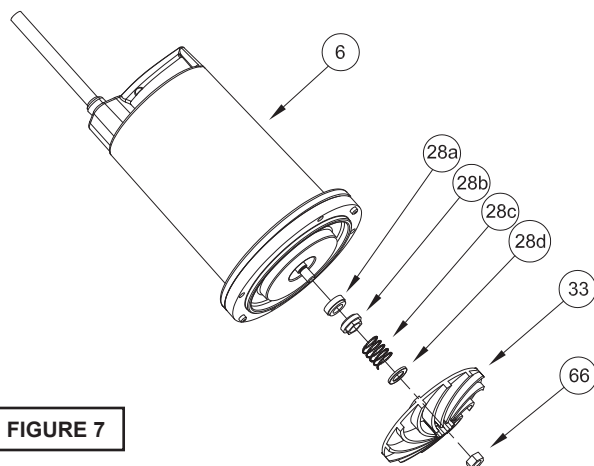

FIGURE 7
Inner Seal (DS Units Only) - To expose inner shaft seal (28) for examination, remove outer seal as outlined above. Remove socket head cap screws (64). Lift outer seal plate (29) and square-ring (27) from inner seal plate (5). See Figure 7. If further repair is required, remove snap ring (32), retaining ring (28d), spring (28c) and rotating member (28b) from shaft. Examine as outlined in outer seal paragraph. If replacing seal, remove stationary (28a) by prying out with flat screwdriver.